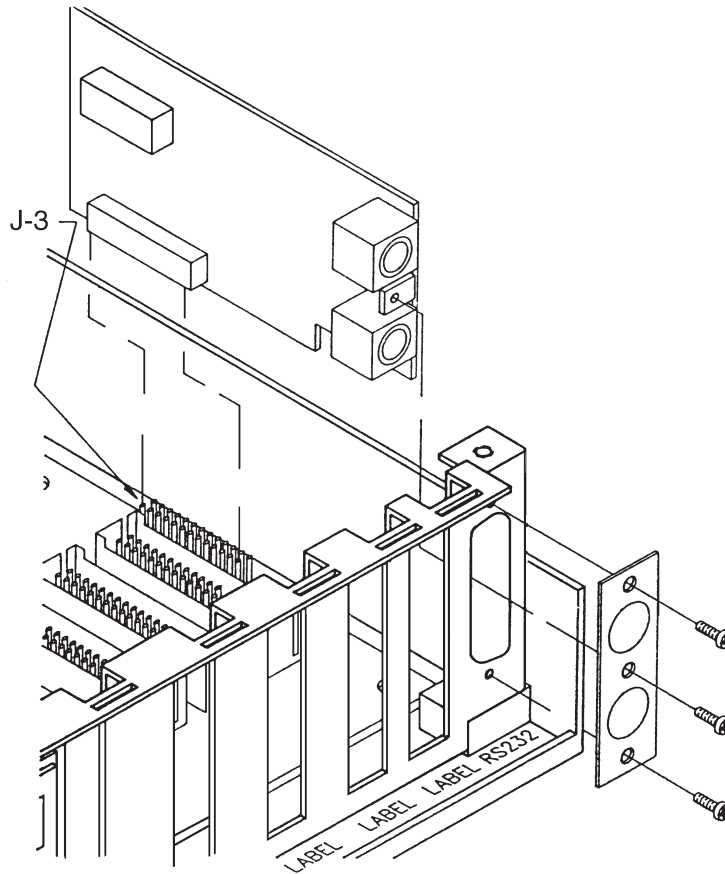

Figure 3
- 4 Install the board into the leftmost connector (J3) on the mother board. The connector plate is held onto the basic unit rear panel with the two screws saved after removing the blank cover (see Figure 3). The long screw is used to anchor the board to the plate.